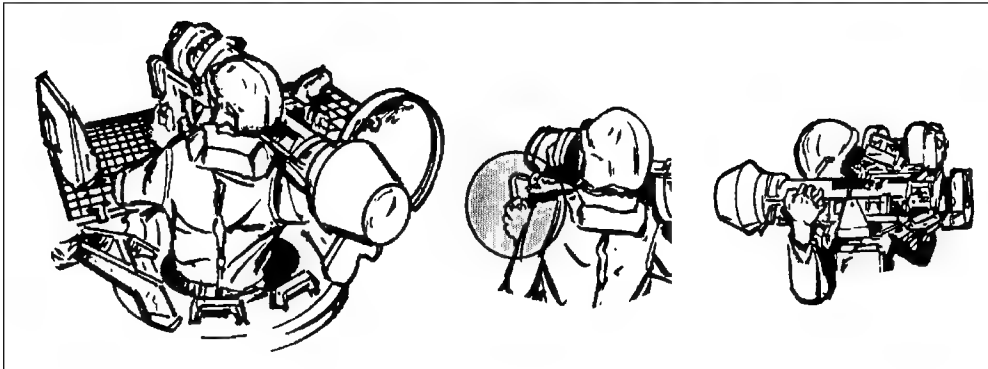

Figure E-6. M175 guided missile launcher mount.
a. **M175 Mounting Assembly.** The guided missile launcher mount (Figure E-6, page E-4) provides a stable platform for firing the Dragon missile from the M113 APC. The unit track mechanic installs the M175 mounting assembly on the APC. Before turning in the APC for overhaul or repair, the unit track mechanic must remove all support equipment.
(1) The M175 mount is an improved, stable firing and tracking base for the gunner that increases the effectiveness of the weapon system.
(2) The gunner uses the M175 mount to fire the M222 tactical round or the M223 practice round.
(3) The round and sight mate electrically through two connectors on the M175 mount. The remote firing mechanism is located on the right rear of the cradle.